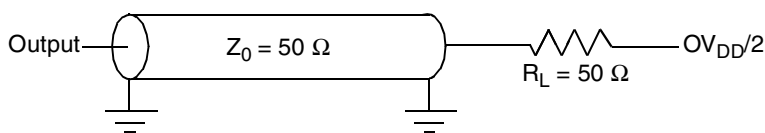

Figure 7. Alternate AC Test Load for the JTAG Interface
1. All outputs are measured from the midpoint voltage of the falling/rising edge of TCLK to the midpoint of the signal in question. The output timings are measured at the pins. All output timings assume a purely resistive 50-Ω load (see Figure 7). Time-of-flight delays must be added for trace lengths, vias, and connectors in the system.
Figure 7 provides the AC test load for TDO and the boundary-scan outputs of the MPC7448.